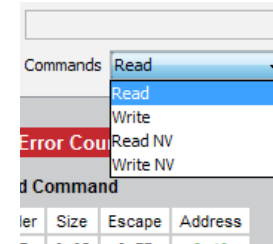

Figure 21: The Master Development System Software Command Set Tab Commands Menu
3. The Commands drop-down menu shows all of the commands that are available for the active module (Figure 21). Selecting one of the commands from this menu automatically fills in the Command box. The values can be adjusted by typing in the box.